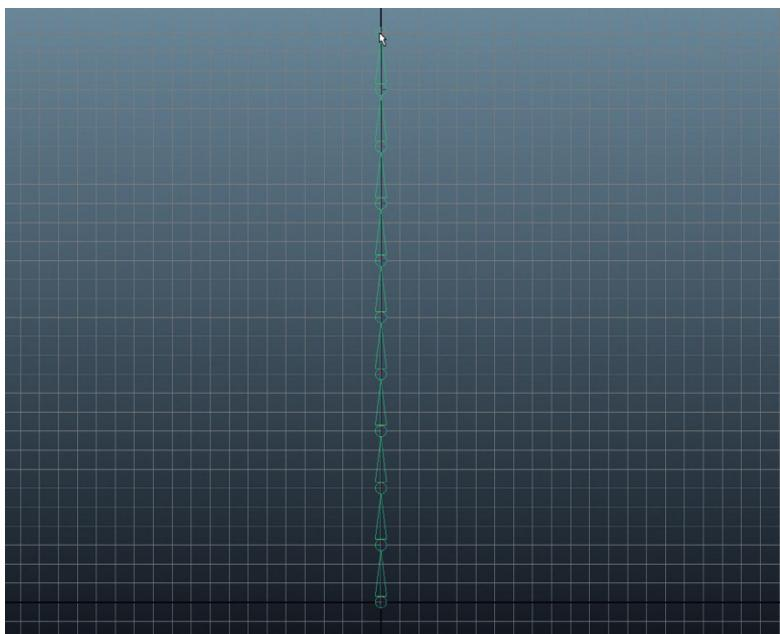

FIG. 9.17 Creating the tail with a string of joints.
Step 2: In the top View Panel, create a tail as a string of joints (Fig. 9.17). The exact number and size is unimportant. I'm using 11 joints that I snapped to the grid (holding x down) so they were pretty much in a straight line (although this too is cosmetic).